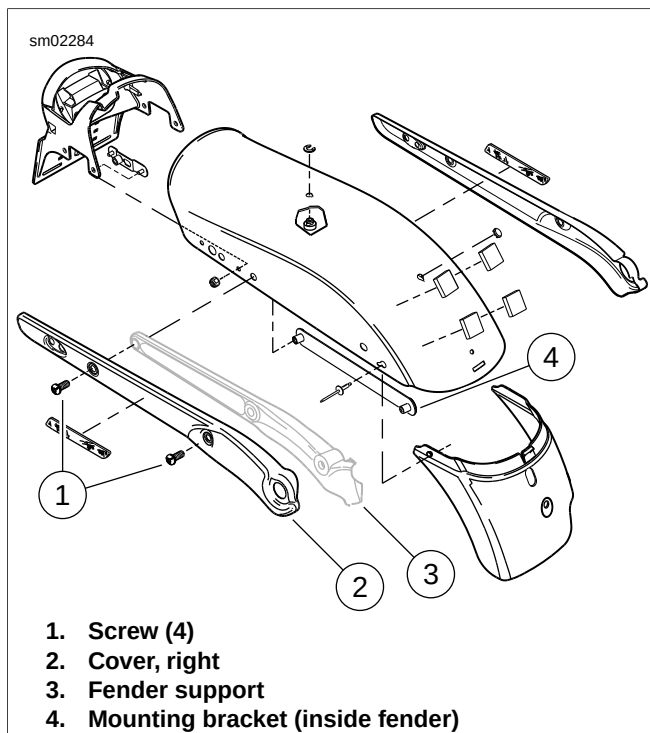

Figure 2-109. Rear Fender (FXDF)
2. See Figure 2-109. Remove screws (1) from holes in cover (2), fender support (3) and mounting bracket (4).
3. Remove remaining screws (1) from left side of fender and carefully remove fender.
2. See Figure 2-109. Apply LOCTITE THREADLOCKER 243 (blue) to the threads of screws (1). Place fender and covers (2) into position. Tighten screws (1) to 12-18 ft-lbs (16.3-24.4 Nm).